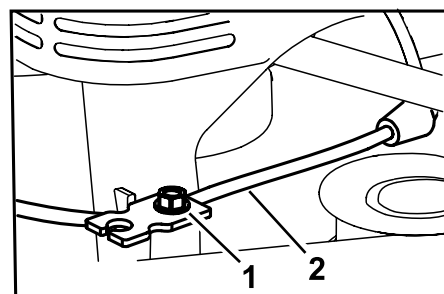

Figure 42
5. Loosen the cable-clamp screw (Figure 42).